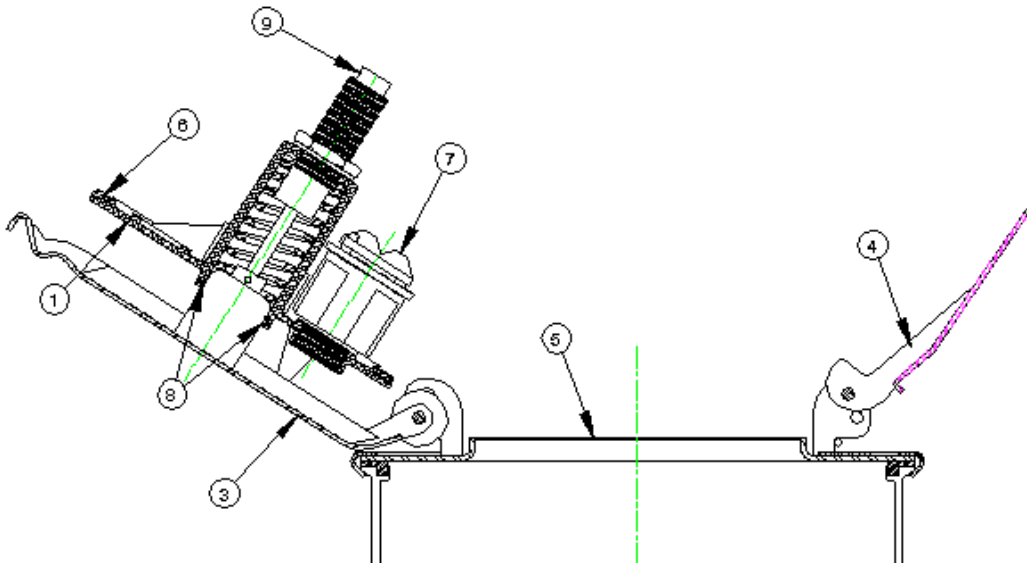

Figure 2
1.	Review Figure 2 before starting inspection.
2.	Unlatch Latch (4) and lay flat on cover.
3.	Open Fill cover assembly and rest Strongback (3) on clamp ring.
4.	Inspect Sealing Surface (5) of base cover for signs of damage, corroded areas, or any other conditions that may impair the manhole's product retention capability.
5.	Inspect the Fill cover Gasket (6) for any sign of wear or degradation (swelling, cracking). If gasket is worn it will need to be replaced.
6.	Inspect the Normal Vent Assembly (7) for cleanliness and gasket integrity.
7.	Next, inspect the area where the strongback shaft (3) goes into the fill cover. If there is an excess amount of grease on the shaft or the fill cover, this may indicate shaft seal (8) wear. Refer to Internal Inspection Procedures, Page 10, for seal replacement.